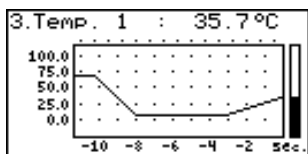

Fig. 6.3. "graph" mode
- "Graph" mode (Fig. 6.3) enables the momentary values or averaged values of measurements conducted for one of measurement channels to be viewed in the form of a graph.